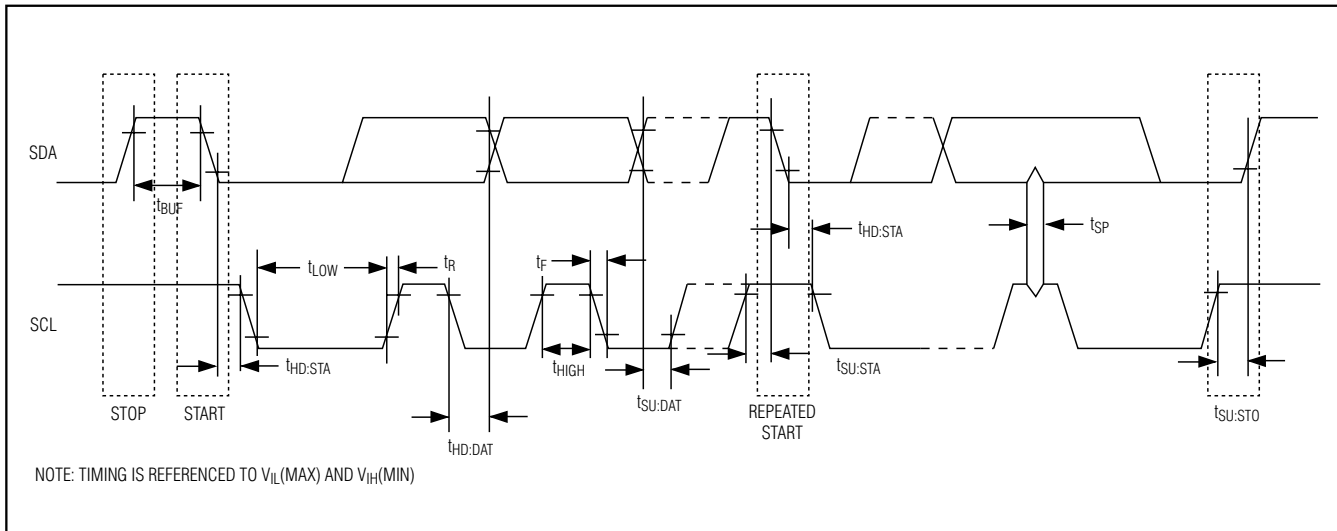

Figure 1. I2C Timing Diagram
**Bit Write:** Transitions of SDA must occur during the low state of SCL. The data on SDA must remain valid and unchanged during the entire high pulse of SCL plus the setup and hold time requirements (see Figure 1). Data is shifted into the device during the rising edge of the SCL.
**Bit Read:** At the end a write operation, the master must release the SDA bus line for the proper amount of setup time (see Figure 1) before the next rising edge of SCL during a bit read. The device shifts out each bit of data on SDA at the falling edge of the previous SCL pulse and the data bit is valid at the rising edge of the current
**Acknowledgement (ACK and NACK):** An Acknowledgement (ACK) or Not Acknowledge (NACK) is always the 9th bit transmitted during a byte transfer. The device receiving data (the master during a read or the slave during a write operation) performs an ACK by transmitting a zero during the 9th bit. A device performs a NACK by transmitting a one during the 9th bit. Timing (Figure 1) for the ACK and NACK is identical to all other bit writes. An ACK is the acknowledgement that the device is properly receiving data. A NACK is used to terminate a read sequence or as an indication that the device is not receiving data.